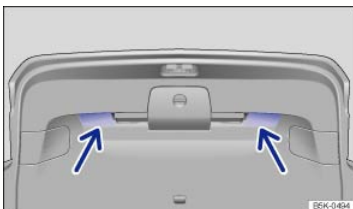

Fig. 71 Open trunk lid: Recessed grips for closing the trunk lid.
- Grasp one of the recessed grips in the trunk lid trim ⇒ Fig. 71 (arrows).